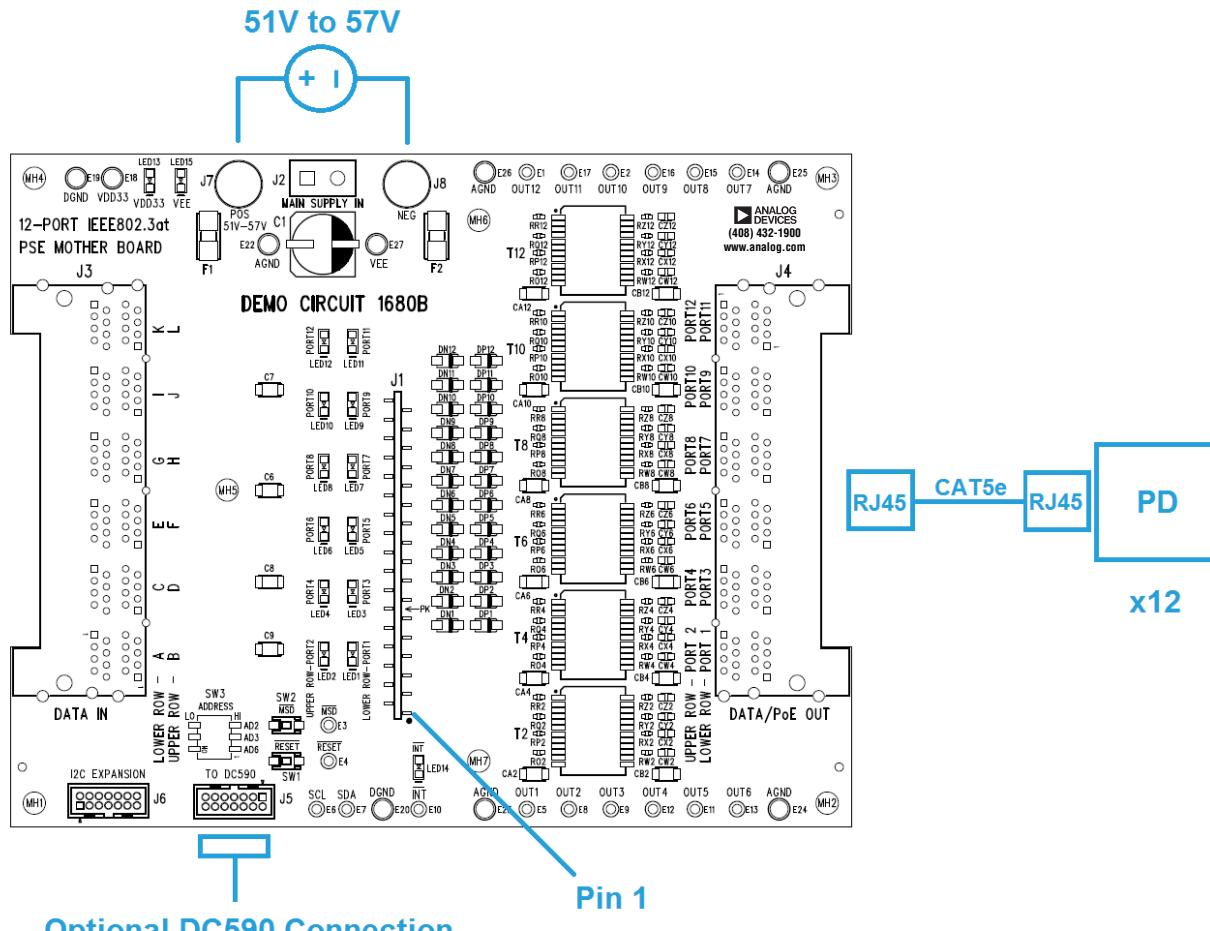
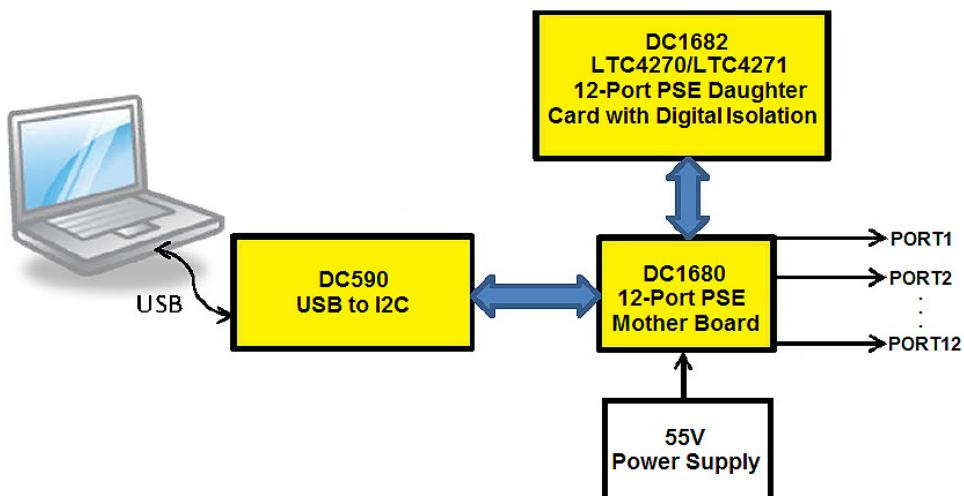

Figure 3. DC1840 Basic Setup
Figure 4. System Setup with the DC590, DC1680, DC1682 and 55V Power Supply
4. On the DC1680, connect a supply with the positive rail to POS and negative rail to NEG (Figure 3). Use a power supply capable of sourcing the maximum load expected ($12 \text{ ports} \times 850\text{mA} \geq 10.2\text{A}$). Ramp the supply up to 51V to 57V.
5. Connect up to 12 PDs to the DC1680, J4 (Figure 3).
6. The DC590 is optionally connected to the DC1680 connector J5 with a 14-pin ribbon cable (Figure 3). A GUI for the LTC4270/LTC4271 is brought up by QuikEval for I²C interfacing from a PC (Figure 4).
Connect a power supply for V_{EE} with the positive rail to POS and negative rail to NEG as shown in Figure 3 of the Quick Start Procedure. Set the voltage within the range in Table 1 depending on whether the application is a Type 1 or Type 2. Choose a power supply rating and set the current limit high enough to provide power for the maximum number of PDs connected and to meet each PD power requirements.
PDs are connected using an Ethernet cable to any of the 12 ports at the 2x6, RJ45 connector J4 on the DC1680B (Figure 3). Test points for port outputs OUT1 through OUT12 are provided.